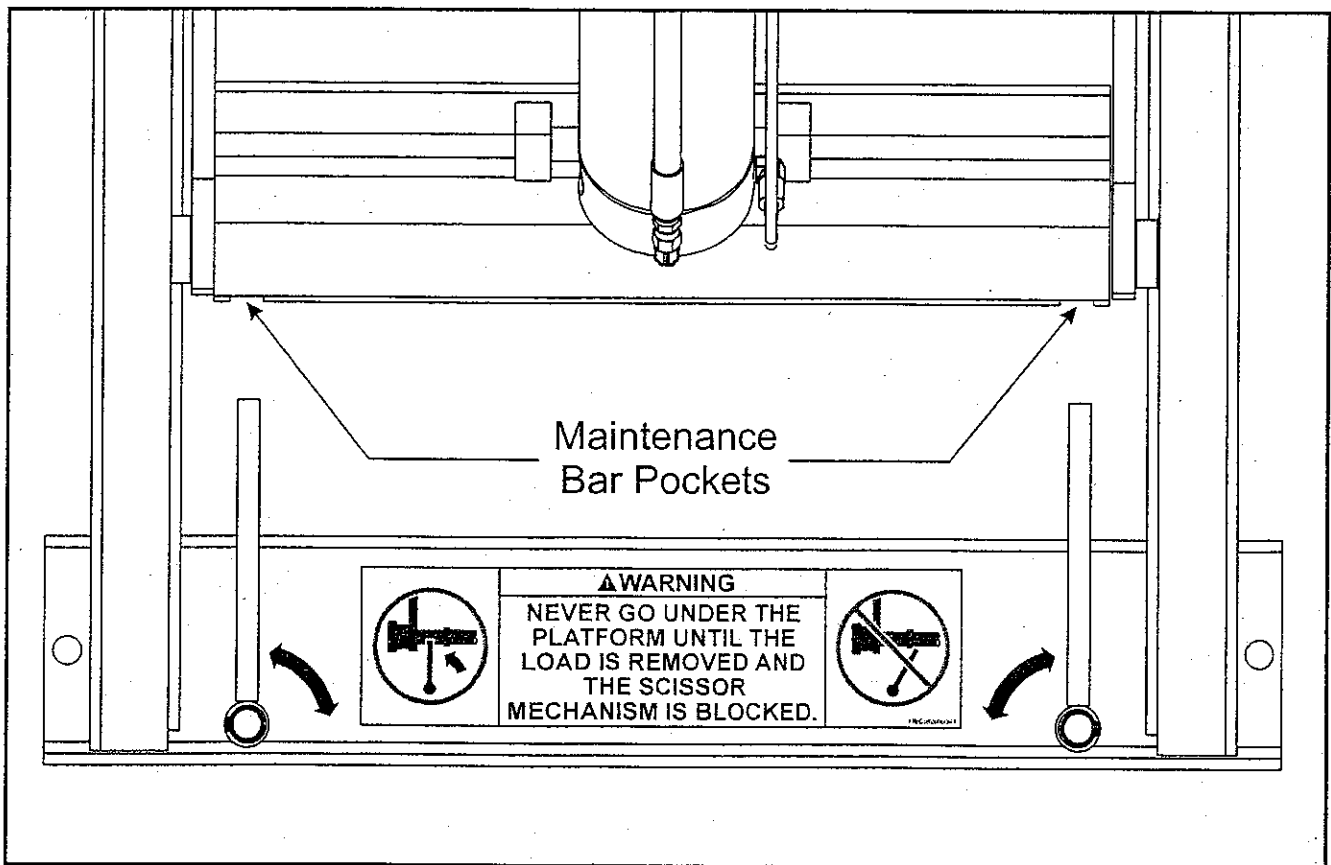

Figure 4 - Maintenance Bar Details
2. As detailed in Figure 4, rotate the maintenance bars approximately 90° so that the bars are parallel with the scissor legs. The end of the bar should be positioned within the maintenance bar pocket in the scissor assembly.